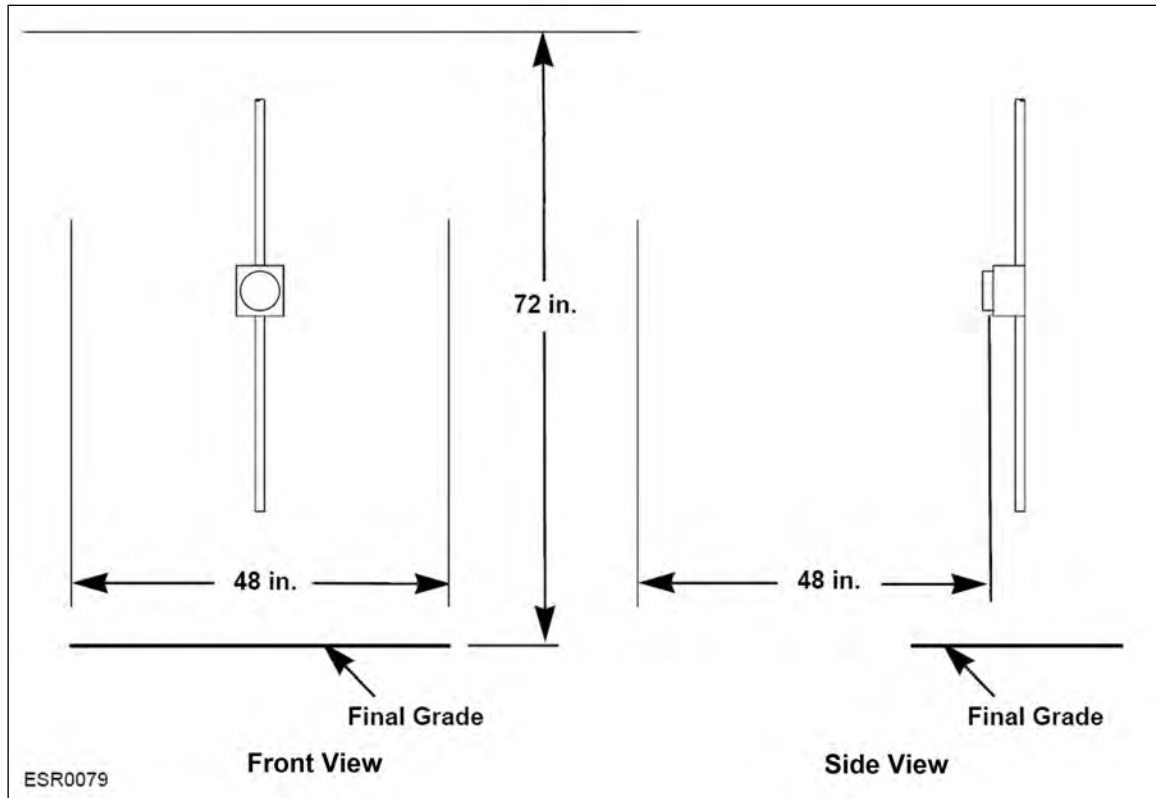

Figure 12: Minimum Unobstructed Workspace Around Metering Equipment
- PGE requires the minimum unobstructed workspace in front of a meter to be **72 inches high**, 48 inches wide, and 48 inches deep. These clearances are shown in **Figure 12**.